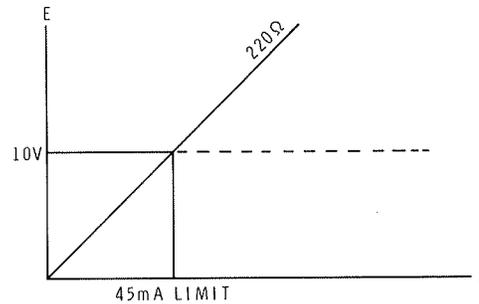

Figure 3
6. Turn the CURRENT control counterclockwise until the voltage just starts to decrease. (See Figure 3). The current is now limited to about $10/220 = .045A = 45 \text{ mA}$.